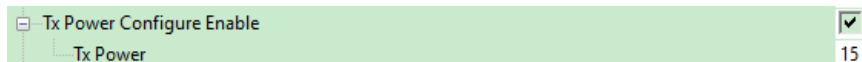

Figure 16
- Tx Power Configure Enable: Click to enable “Change Tx Power value” and click the additional item “Tx Power” to enter a value ranging from 0 to 15, as shown in Figure 16. Users can adjust this value according to the transmission distance or power consumption.